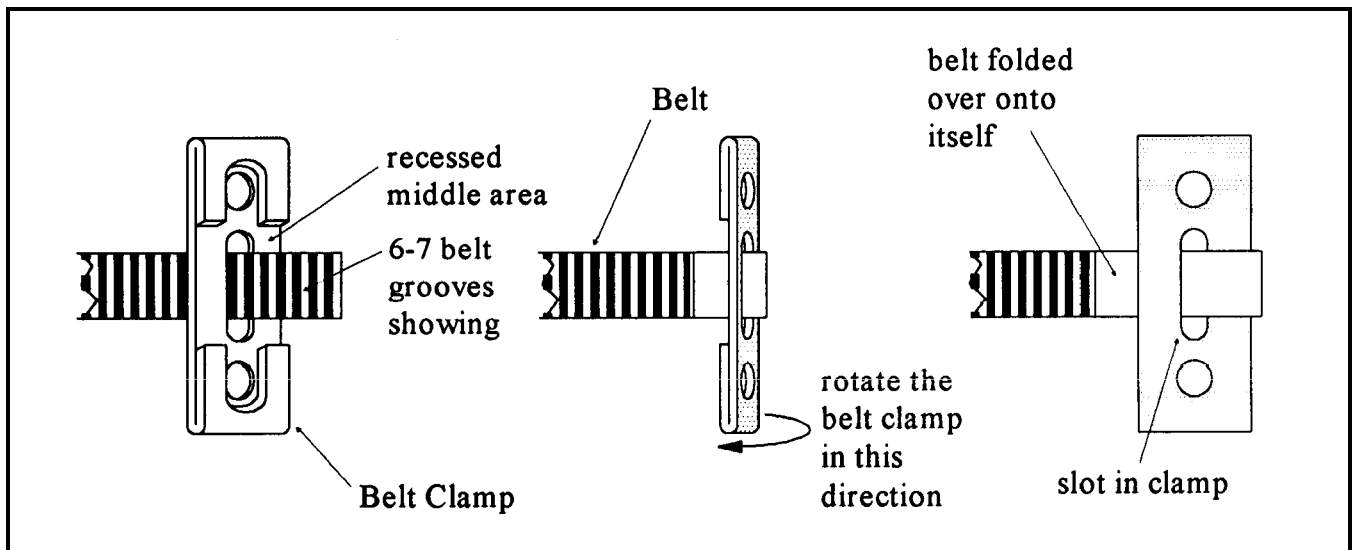

Figure 4
6. Install one end of the new belt into the clamp that was removed in step 5. Refer to the following steps and Figure 4 below. Refer to the end of the X carriage assembly that still has the clamp holding the old belt as a guide.